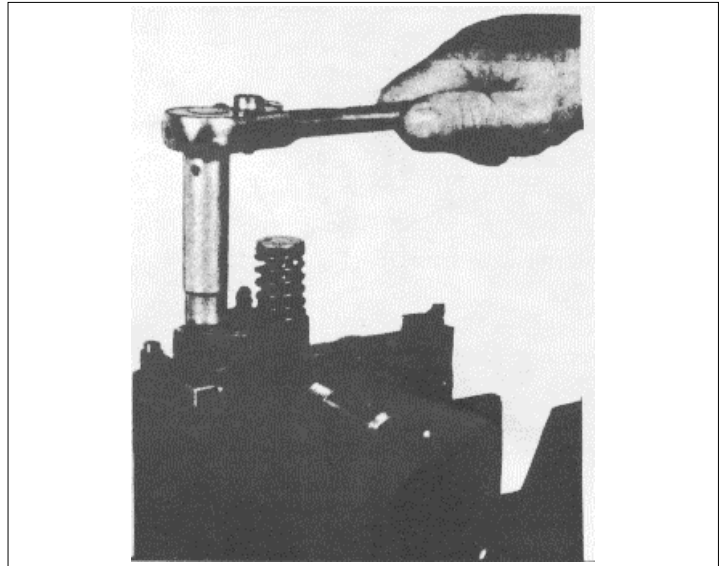

Fig. 23
- (1) Support the injector upright in injector holding fixture J 22396 (Fig. 23) and remove the filter caps, gaskets and filters.